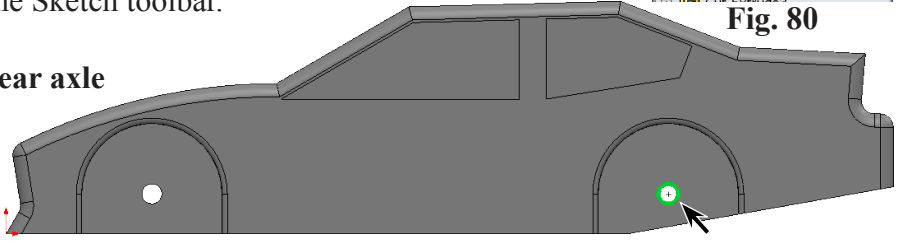

Fig. 81
Step 2. Click to select the **edge of rear axle hole**, **Fig. 81**.